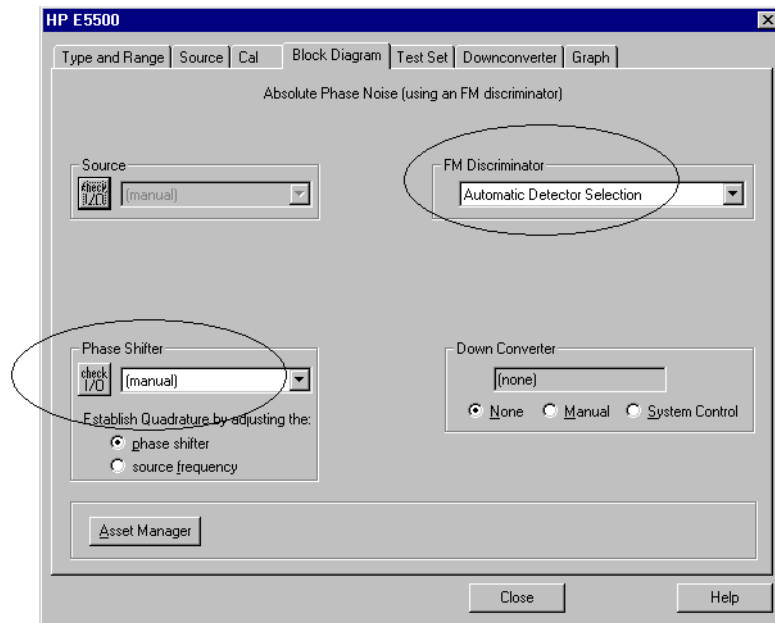

Figure 11-6 Select Parameters in the Block Diagram Tab
- a From the **Phase Detector** pull-down, select **Automatic Detector Selection**. See Figure 11-6.